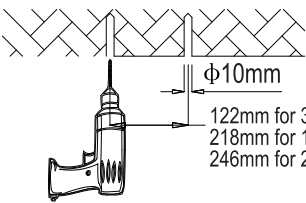

Figure 1-1
- 1.Make marks on the walls, and then drill holes on the marks(Figure 1-1).